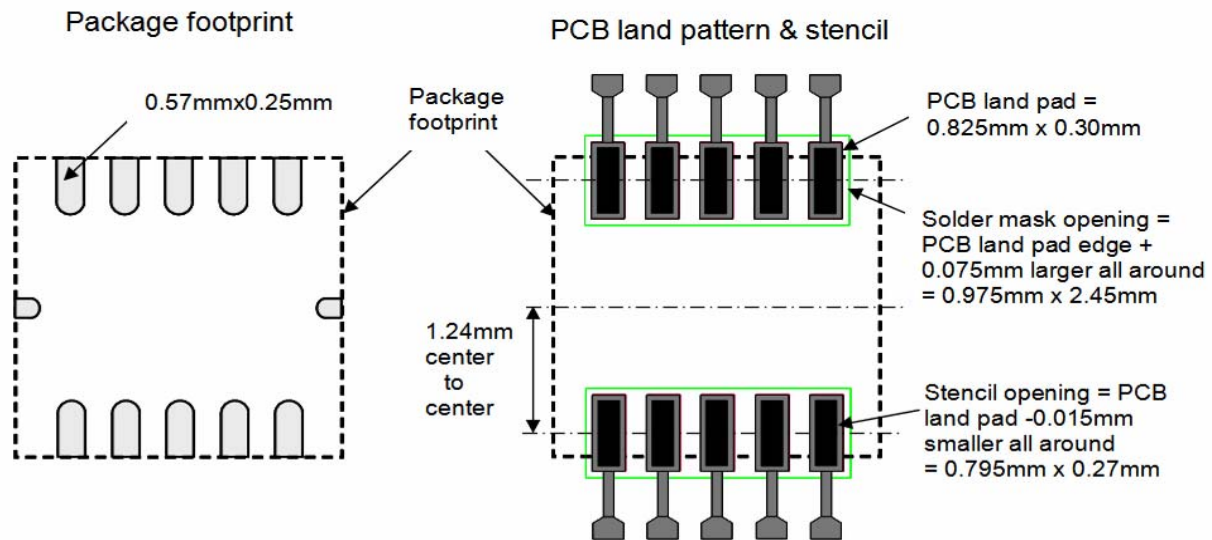
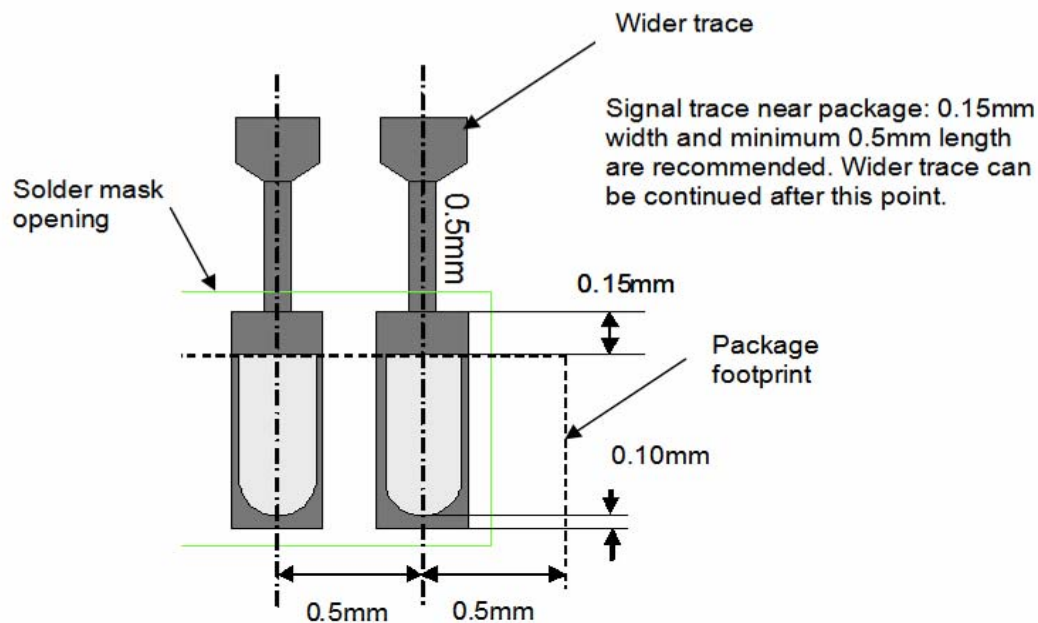

Figure 16. Package Footprint, PCB Land Pattern, and Stencil Design
Figure 17. PCB Land Pattern Detail
1. The PCB land should be designed with Non Solder Mask Defined (NSMD) as shown in Figure 16 and Figure 17.
3. PCB land pad is 0.825 mm x 0.3 mm as shown in Figure 16 and Figure 17.
9. Signal traces connected to pads should be as symmetric as possible. Put dummy traces on NC pads in order to have same length of exposed trace for all pads. Signal traces with 0.15 mm width and minimum 0.5 mm length for all PCB land pads near the package are recommended as shown in Figure 16 and Figure 17. Wider trace can be continued after the 0.5 mm zone.